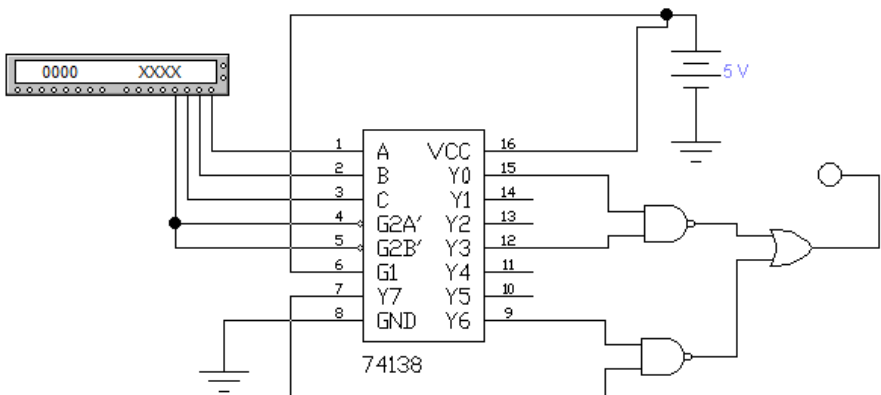

Figure 9.3 – Realization of a given logic function using a decoder
3. Draw the schema shown in fig. 9.3, which implements the function $A'B'C' + AB + BC$